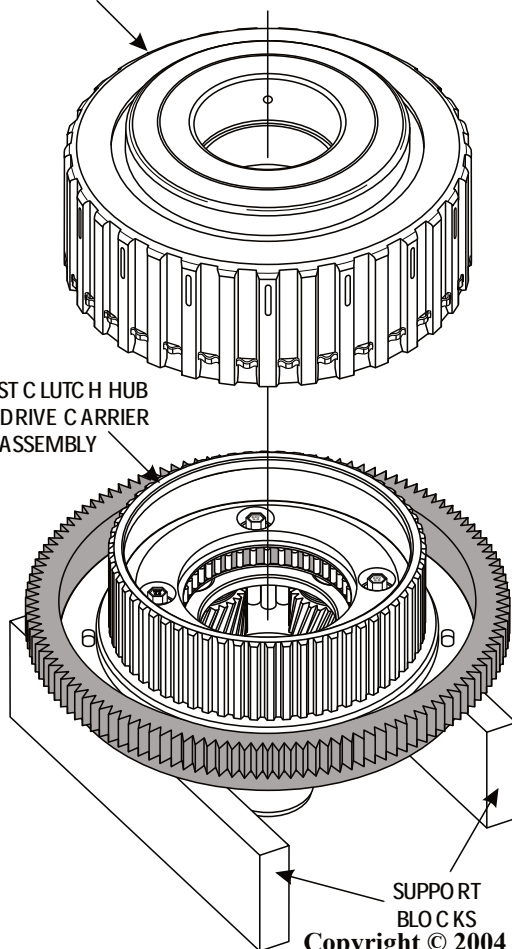

Figure 106
6. Set the coast clutch hub and overdrive carrier assembly onto a set of blocks, as shown in Figure 106.
7. Install the previously completed coast clutch housing onto the coast clutch hub, by rotating back and forth, to engage all friction plates on the hub and ensure it is fully seated. Refer to Figure 106.